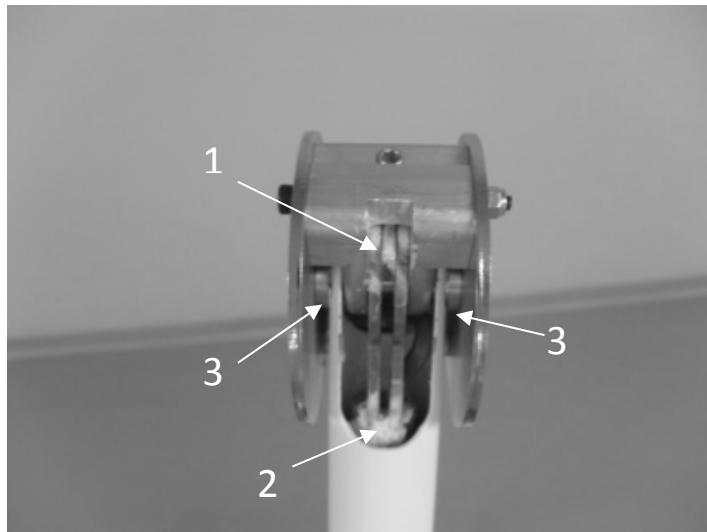

Figure 28: Lubrication Instructions
- Lubricate the link pivot pins [1,2] and the central pivot pin [3] using appropriate aerosol penetrating white grease or equivalent (See figure 28). Note: Have a second person hold the spring arm at its lowered position in order to access the lower link pivot pin [2].